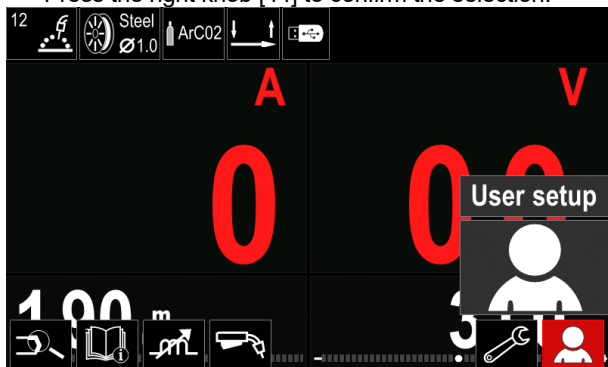

Figure 16
- Access to the „User Setup” (see the Figure 16.)